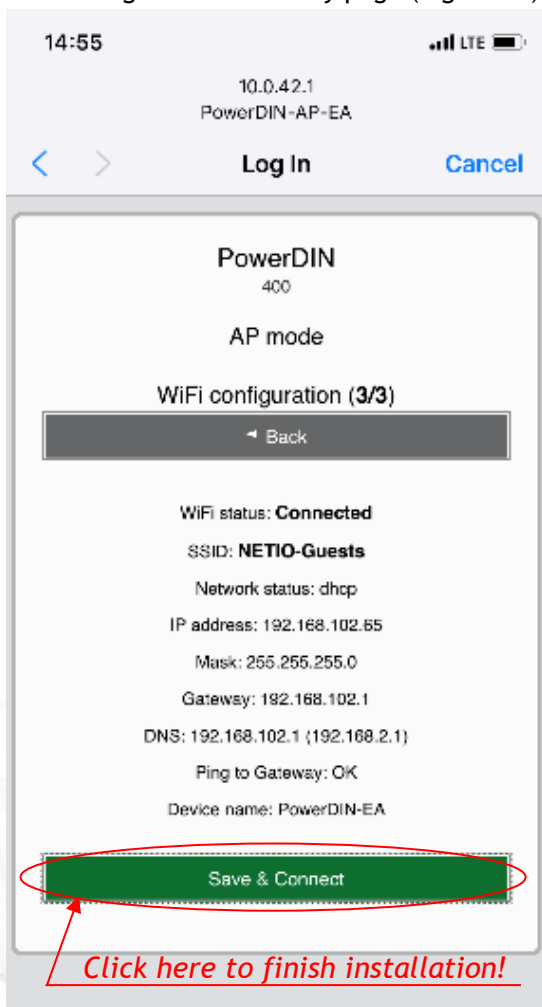

Figure 11 - Configured Wi-fi parameters
- A page with the connection result is displayed. If it shows “WiFi status: Connected“, check the network parameters and then click “Save&Connect” to save the configuration (Figure 11). The device then exits the AP mode, connects to the selected WiFi network, and displays a network configuration summary page (Figure 12). WiFi connection is indicated with the yellow LED.